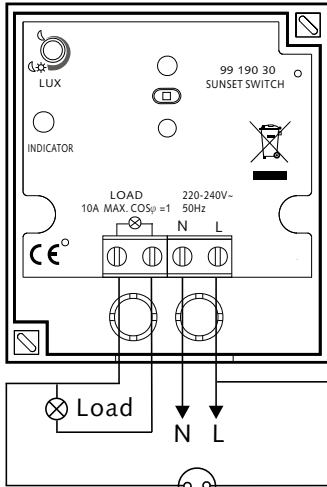

Fig. 8
4. Unscrew the terminal and refer to wiring diagram to insert power cables into the corresponding terminal pin jack (See Fig. 8).